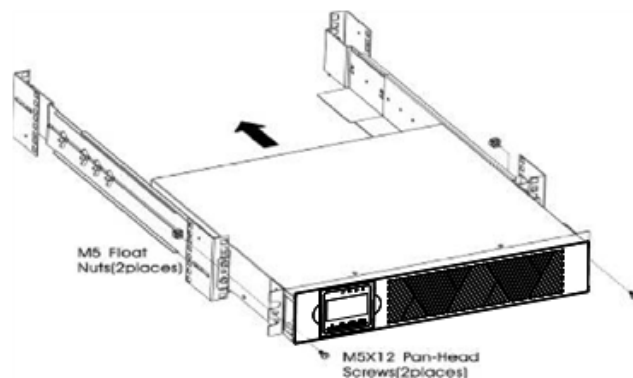

Figure 4: Securing the front of the cabinet
- l) Secure the front of the UPS to the rack using one M5×12 pan-head screws and one M5 cage nuts on each side (see Figure 4). Install the bottom screw on each side through the bottom hole of mounting bracket and the bottom hole of the rail.